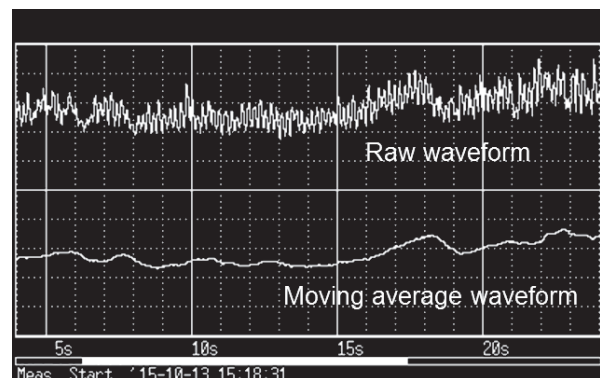

Fig. 3. Moving average waveform calculation.
3) *Real-time waveform calculation functionality:* The LR8432-20 provides five waveform calculation functions: the four arithmetic functions along with moving average, simple average, integration, and coefficient of overall heat transmission. It is typical to average readings from heat flow sensors since their output fluctuates greatly due to factors such as surrounding convection currents, making moving averaging functionality essential. Fig. 3 provides an example measurement waveform before and after moving average calculation.